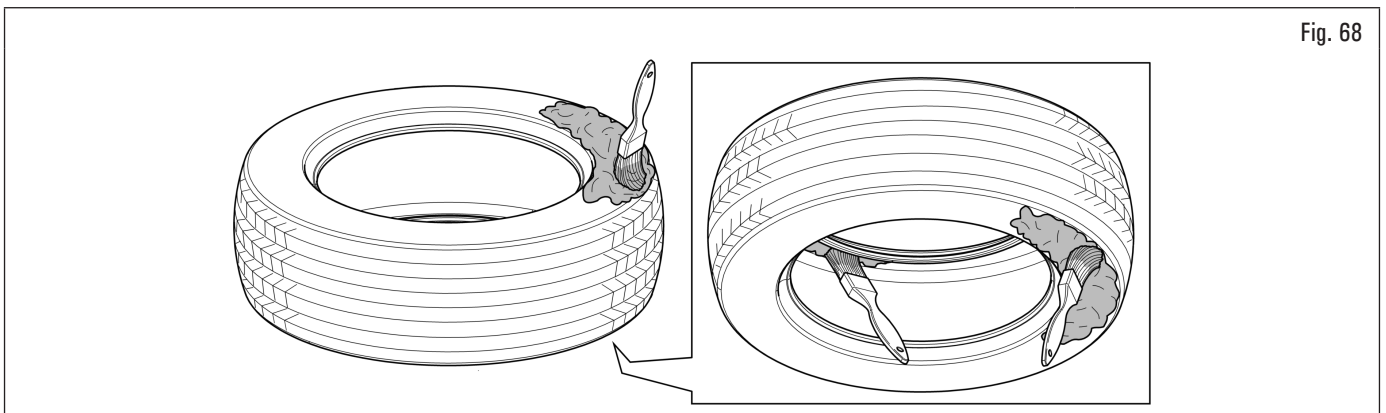

Fig. 68
2. generously grease the tyre, both the lower part of the bead and the external part of the same, up to the tyre tread, and at least 3 cm (1.18") per side inside the tyre (Fig. 68);